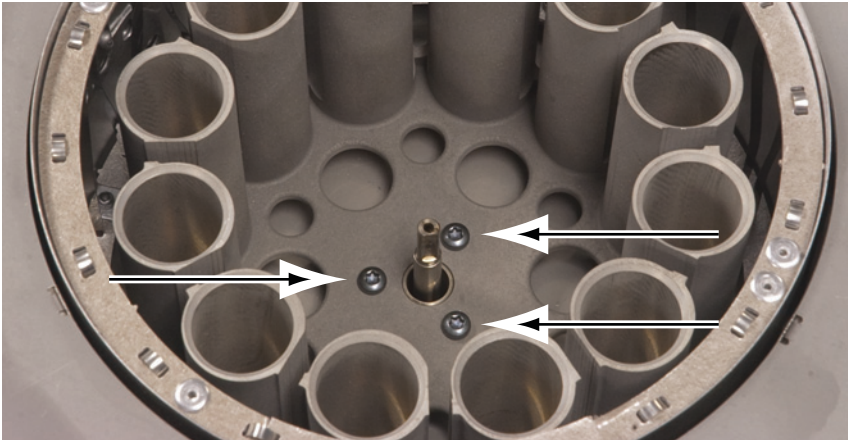

Figure 20 Removing the carousel
- a** Remove three T-20 Torx screws from the center of the carousel (Figure 20).